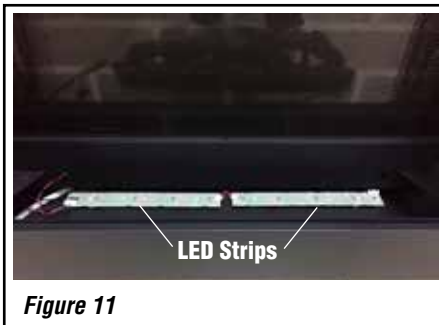

Figure 11
- i. With the ember bed removed, the 2 ember bed LED strips will be visible (see Figure 11).